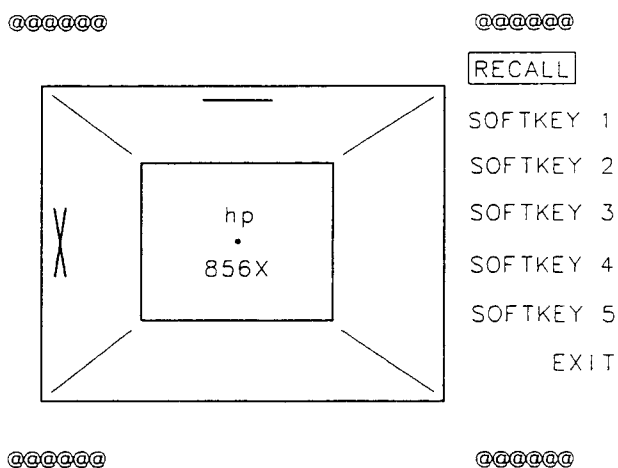

Figure 2-4. CRT Adjustment Pattern
3. Adjust the rear-panel TRACE ALIGN until the leftmost line of the test pattern is parallel with the CRT bezel. See Figure 2-4.